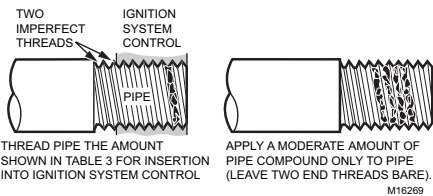

Fig. 4. Use moderate amount of pipe compound.
4. Apply a moderate amount of good quality pipe compound, leaving two end threads bare. On LP installations, use a compound resistant to LP gas. See Fig. 4.